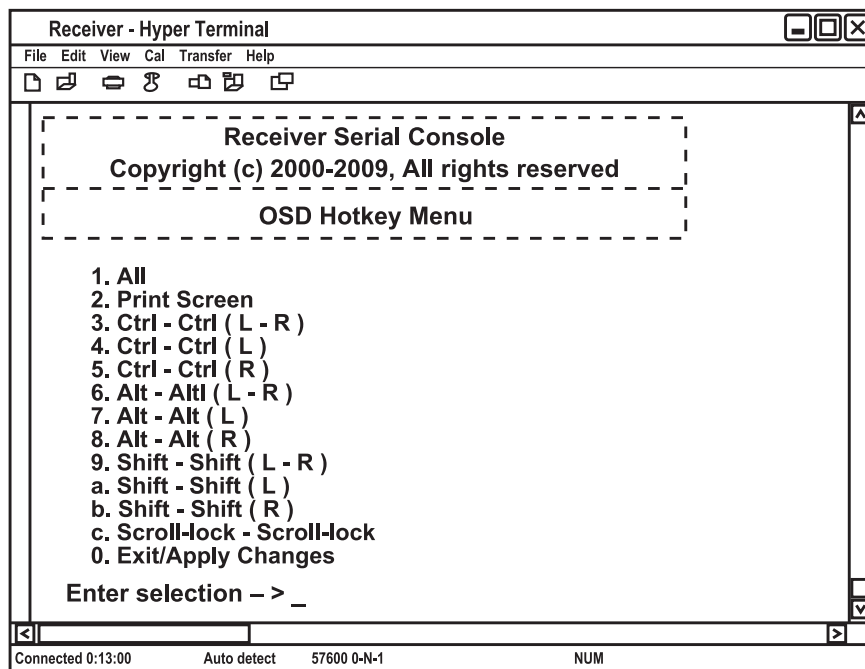

Figure 4-35. OSD Hotkey Menu.
3. Press "1" to access the OSD Hotkey Menu and press "Enter." The OSD Hotkey Menu (see Figure 4-35) will appear. This menu shows you the hotkey sequences that you can choose from.